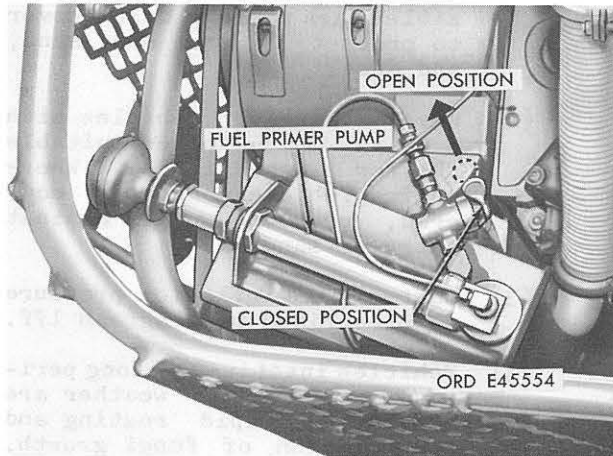

Figure 46. Operating fuel primer pump.
- (1) The M274 and M274A1 vehicles are equipped with a fuel primer pump (fig. 46) which aids in starting engine during cold-weather.
- (2) To operate primer pump (fig. 46), pull and push pump handle two strokes to prime engine intake manifold with fuel.
- (3) Push handle on primer pump in to closed position before attempting to start engine.